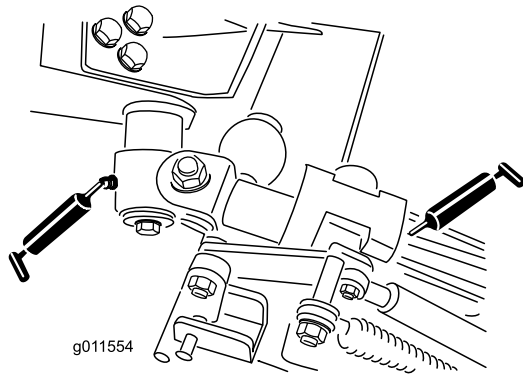

Figure 68
- Bell crank pivot bushings (2) (Figure 68)
- Rear arm bushings (4) (Figure 68)